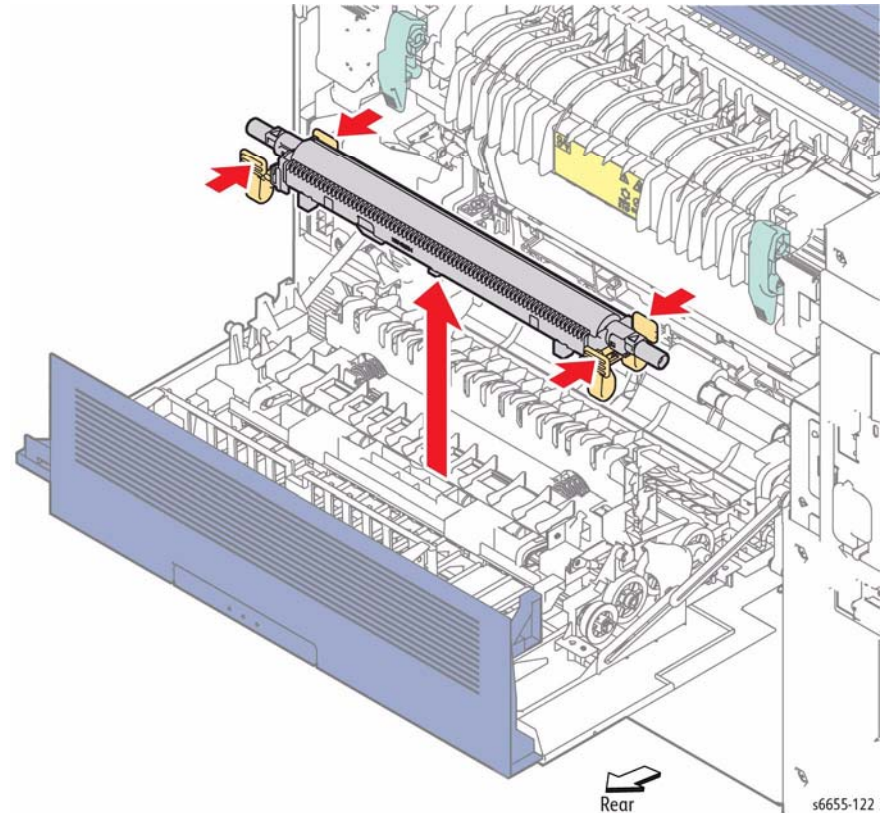

Figure 1 Remove the Transfer Roller
2. Refer to Figure 1 to remove the Transfer Roller upward while squeezing the tabs holding it.